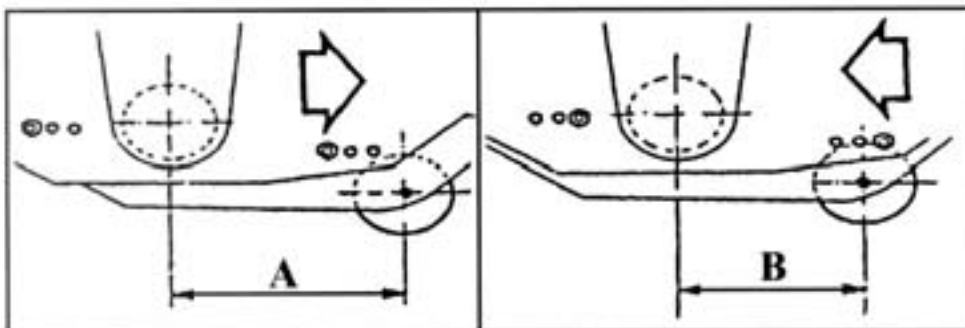

Fig. 7
1. There is also an adjustment that can be made on the roller to control mulch size and power needed. By moving the roller toward the cutting shaft (*Fig. 7*), a finer mulch is produced, but requires more H.P.
2. By moving the roller away from the cutting shaft (*Fig. 7*), a coarser mulch is produced, requiring less H.P. In this case, we suggest closing the hatch to mulch prunings.